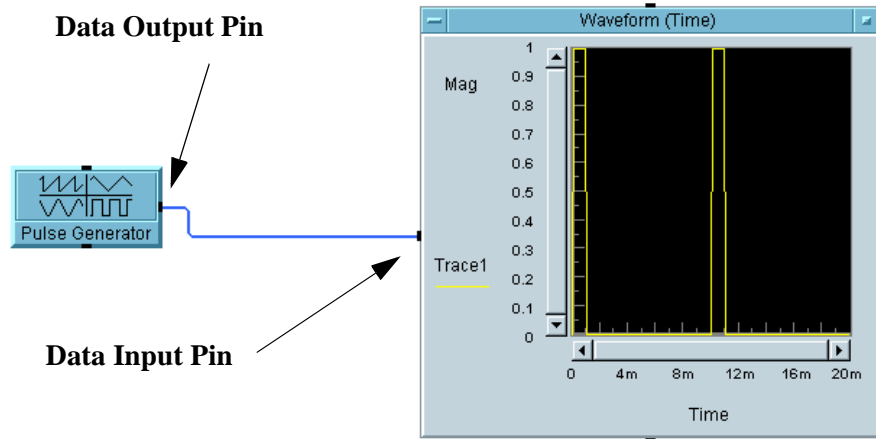

Figure 1-15. Creating Data Lines Between Objects
1. Click on or just outside the data output pin of one object, then click on the data input pin of another, as shown in Figure 1-15. (A line appears behind the pointer as you move from one pin to the other.)